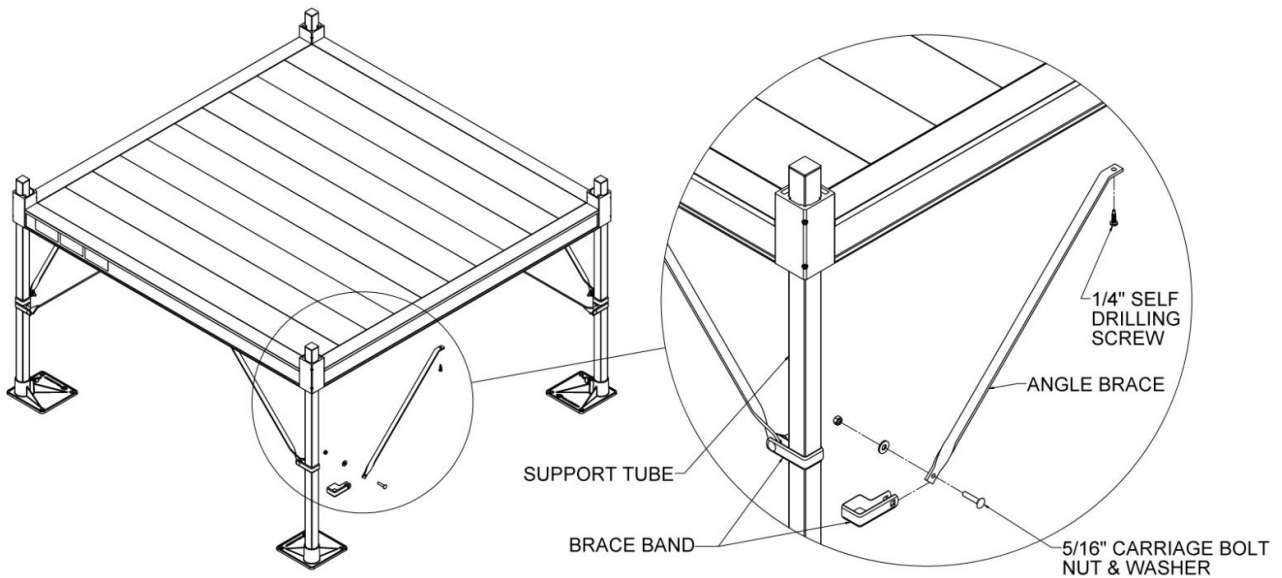

FIG. 2.9
- 2.6.2. Use two brace bands to secure the ends of the two angle braces nearest the twist to the support tube using a 5/16" bolt, flat washer, and nut (FIG. 2.9).
- 2.6.3. Opposite ends of the braces are attached to the bottom of the platform side rail at 90° to each other using a 1/4" x 1" long self-drilling screw (FIG. 2.9).